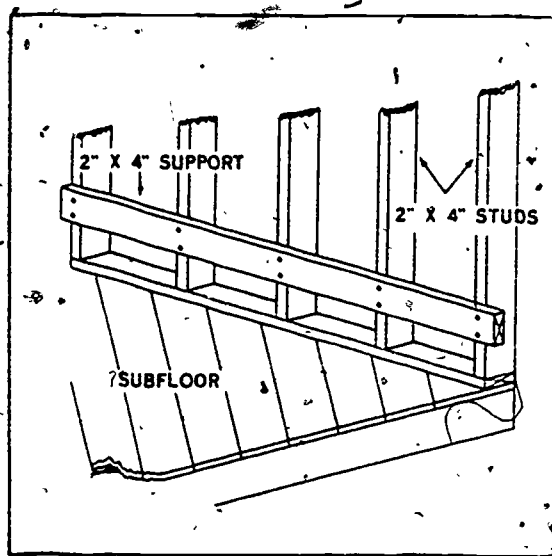
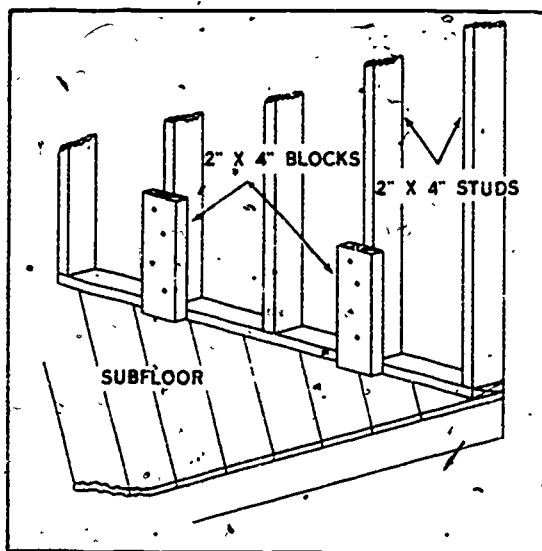

Figure 2-20. 2" x 4" used as bathtub support.
Figure 2-21. Blocks used as a bathtub support.
**Installation of bathtubs.** Modern cast-iron tubs are designed to rest on the floor and normally span an area from wall to wall. The tub sits firmly on the subfloor, and the rim of the tub is supported by a piece of  $2'' \times 4''$  nailed lengthwise on the studs, as shown in figure 2-20, or supported by  $2'' \times 4''$  blocks resting on the subfloor and nailed to the soleplate and studs, as shown in figure 2-21. After the tub is placed against the studs and the rim of the tub is resting on its supports, check it to insure that it is level. If you use shims to level the tub, use material that the weight of the tub will not cut or break.